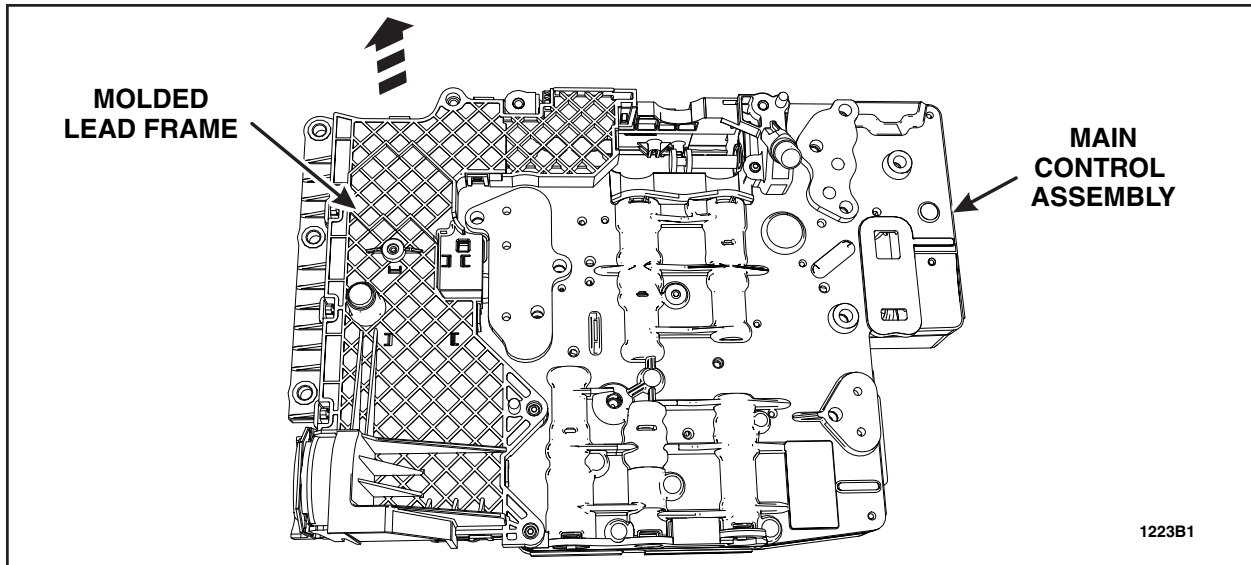

FIGURE 3
6. Carefully separate the molded lead frame from the main control assembly. See Figure 3.